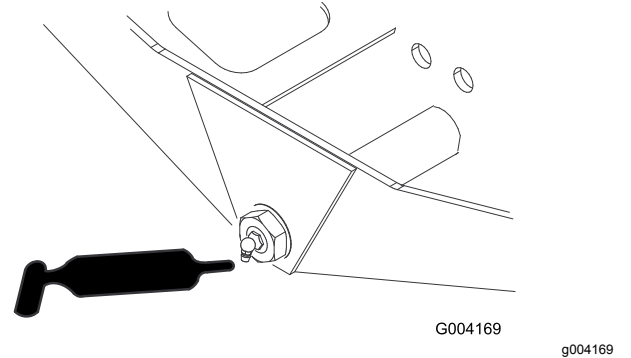

Figure 52
- Axle steering pivot (1) (Figure 52)